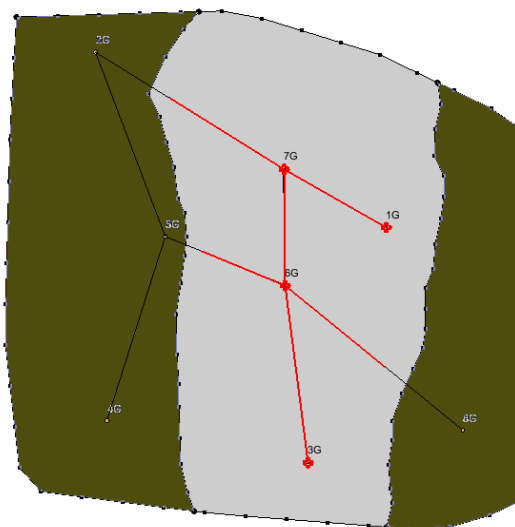

Figure 5 Polygons to delete (highlighted in green)
2. Using the **Select Polygons**  tool, hold down the *Shift* key and select the two highlighted polygons (to the left and right of the center polygon, Figure 5). Press the *Delete* key to delete them. Solids will only be created where a polygon exists.